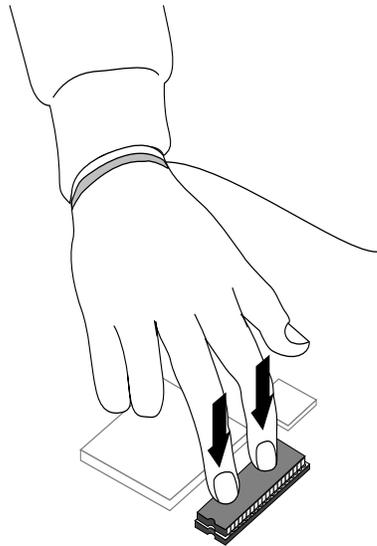

Figure 1-16 Pressing the PROM Chip Into the Socket
5. Once the pins are lined up, press down firmly on the top of the PROM chip until it is completely and evenly seated in the socket, as shown in Figure 1-16.